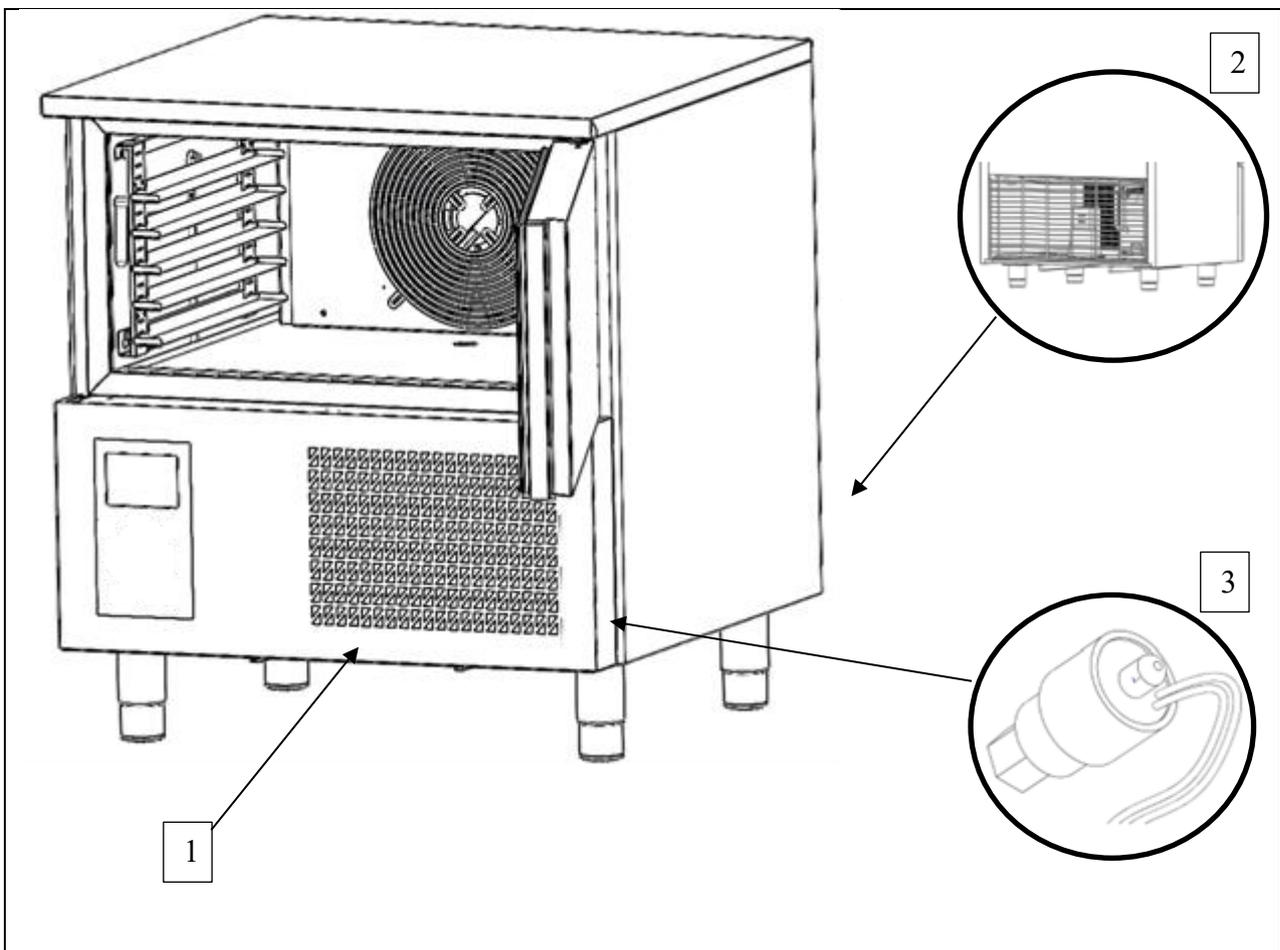

Fig. 2
- grilles covering the cooling fans (ref. 1 fig. 2);
- grilles covering the condenser unit (ref. 2 fig. 2).
- Sensor (ref. 3 fig. 2) located on cooling circuit signals any overheating of the equipment and places the machine on standby.